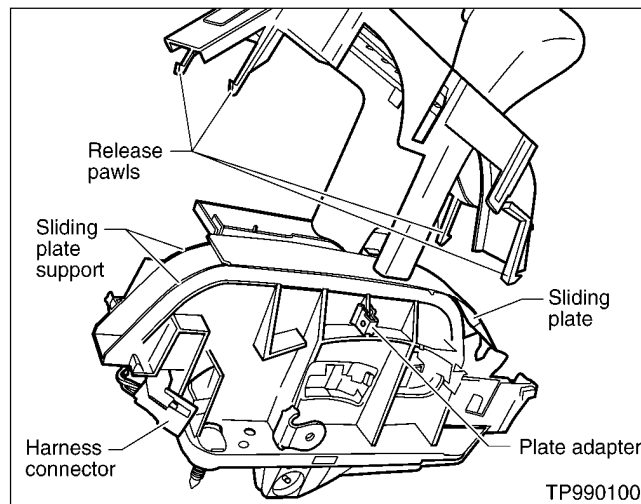
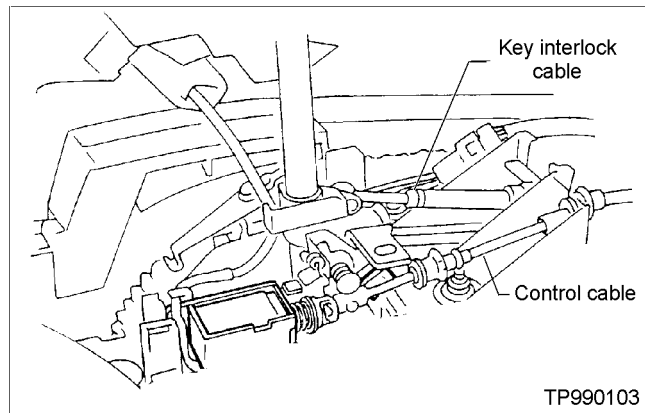

Figure 3
Figure 4
3. Release pawls of the A/T shift indicator and lift to expose sliding plate base support (see Figure 3).
5. Attach the plate adapter, P/N 34981-79900 to the A/T device as shown in Figure 3.
4. Remove key interlock lock cable, A/T control cable (see Figure 4) and electrical harness connector from the A/T shift control device (see Figure 3).
10. Remove the harness connector from mounting bracket (See Figure 3).
17. Clean the surface of sliding plate and lightly grease the sliding plate supports (see Figure 3).
18. Attach the plate adapter, P/N 34981-79900 to the A/T shift control device base bracket (see Figure 3).